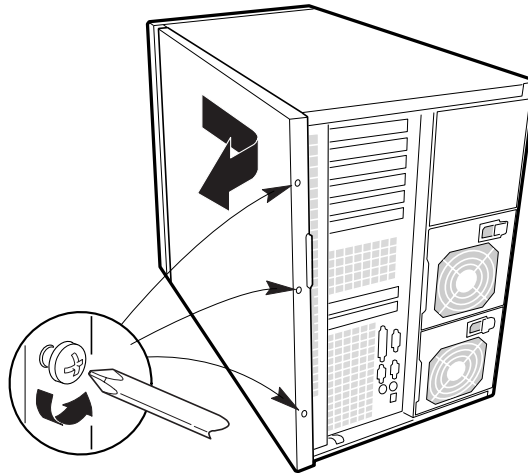

Figure 1: Removing the Access Cover
5. Remove and save the three screws from the back of the access cover (see Figure 1); you will need them later to reattach the cover.